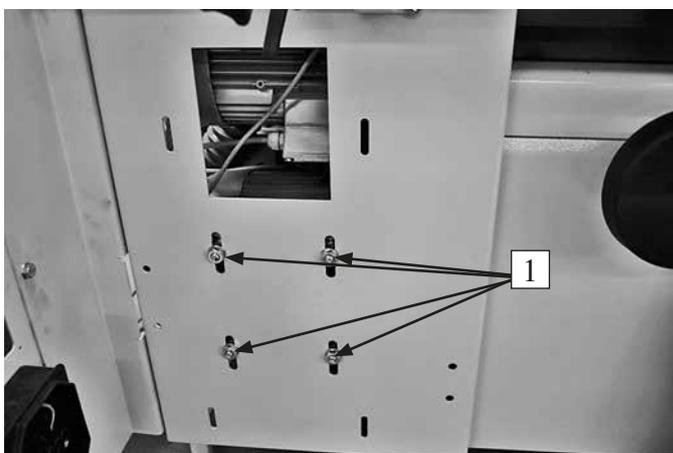

Fig.35
Maintenance (fig. 35, 36, 37)
Remove the plate (fig. 35) by lifting it up and taking it out. The drive belts for the planer motor can easily be tightened by loosening the 4 nuts (1) holding the motor to the frame.